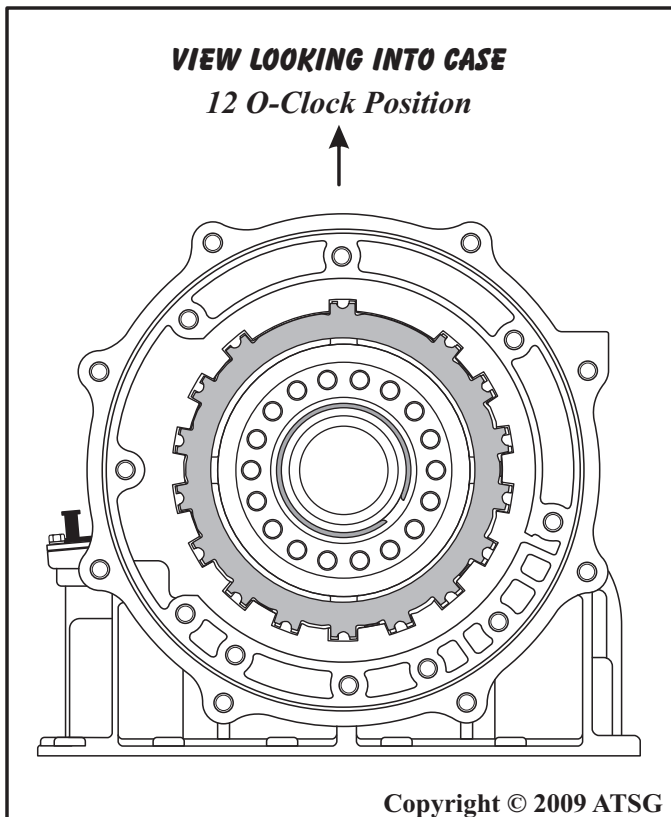

Figure 190
- Note:** *The forward clutch steel plates must also be oriented properly in the case, with the single lug located at the 12-O'clock position in the case, as shown in Figure 190.*
- Note:** *The forward clutch backing plate must also be oriented properly in the case, with the single lug located at the 12-O'clock position in the case, as shown in Figure 190.*